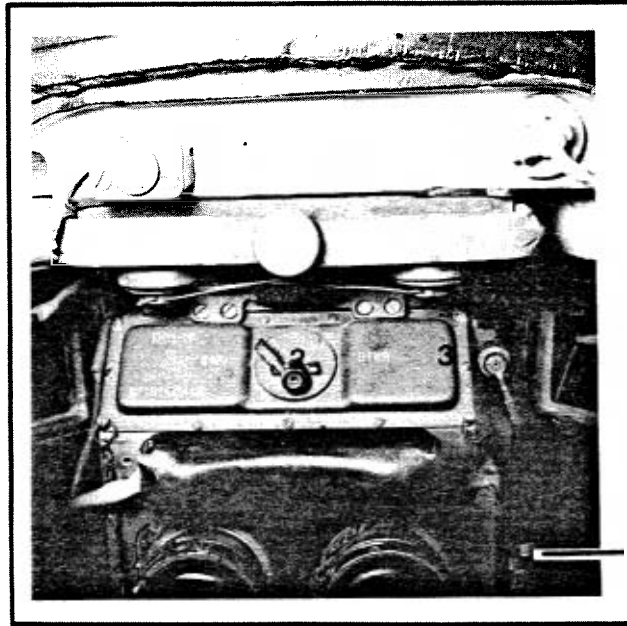
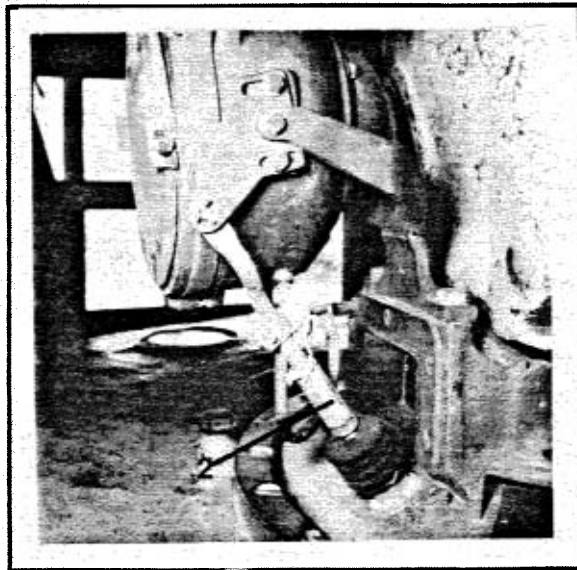

FIG. 3-109. TKN-3 MOUNTING BOLTS
FIG. 3-110. OU-3GK ADJUSTMENT LINKAGE
(1) Select a well-defined object 1000 meters from the tank.
(2) Lock the TC's hatch.
(3) Rotate range knob on TSh2B-41U until range line is in alignment with the range scale zeros. Place apex of main gun aiming point on selected target object.
(4) If the TKN-3 is properly mounted, the center cross-hairs will line up with the selected target object. If off-center, loosen the four mounting bolts that secure the sight frame to the TC hatch (Fig. 3-109) and by moving the frame and TKN-3 simultaneously, position the cross-hair center on the target object and retighten the mounting bolts.
(3) Place day/night mode switch on "night" position---"H" as it appears on the lever (See Fig. 3-109).
(5) Adjust illumination intensity with diaphragm and screen levers (See Fig. 3-109).
(6) Aim TKN-3 center of view on flashlight.
(7) If the searchlight beam does not coincide vertically with the TKN-3, loosen lock nuts of searchlight rod sleeve until the beam is aligned with sighting direction and tighten lock nuts.
(8) If the searchlight beam does coincide horizontally with the TKN-3, loosen the 4 searchlight pivot plate nuts (Fig. 3-110), rotate the searchlight horizontally to align the beam with TKN-3's field of view and tighten pivot-plate nuts.